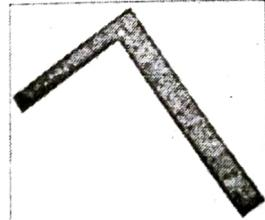

Fig. 2
3. **Steel Square:** made of hardened steel. It is used for marking in the perpendicular direction to any base line Fig. 2.